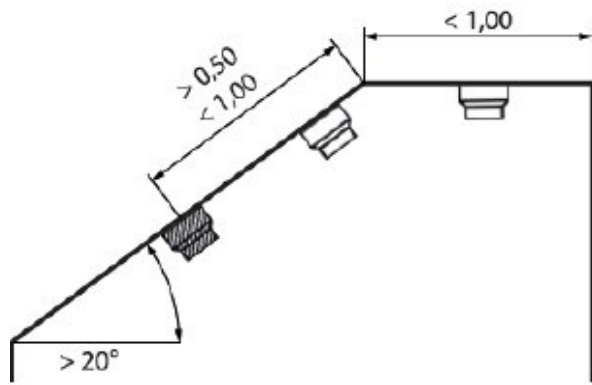

Figure 6, horizontal ceiling, less than 1 m wide
- The following applies to rooms with a partially sloping roof: if the horizontal ceiling is less than 1 m wide, mount the detector as shown in Fig. 6. If the horizontal ceiling is wider than 1 m, mount the detector in the middle of the horizontal ceiling.